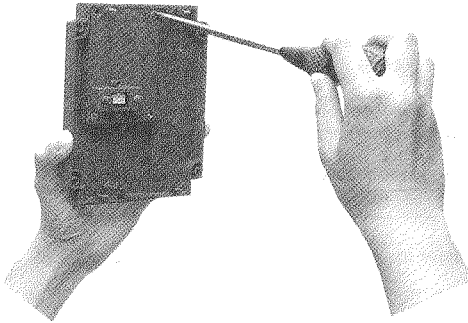

Fig. 5-2-2 Removing the keypad panel
(2) Removing the keypad panel
After removing the Inverter cover as described in (1) above, loosen the two keypad panel fixing screws on the reverse side of the cover (refer to Fig. 5-2-2), and then remove the keypad panel.